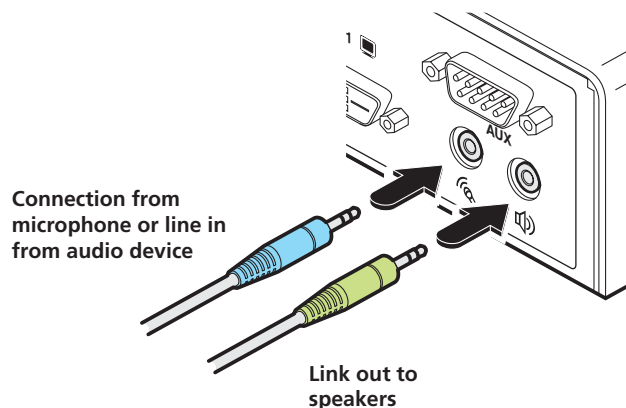

Figure 3-20. Connect the speaker and microphone cables to audio sockets.
- 1 Connect the lead from a mono microphone or, alternatively, a line in connection from an audio device to the 3.5mm socket labelled  on the rear panel. See Figure 3-20.